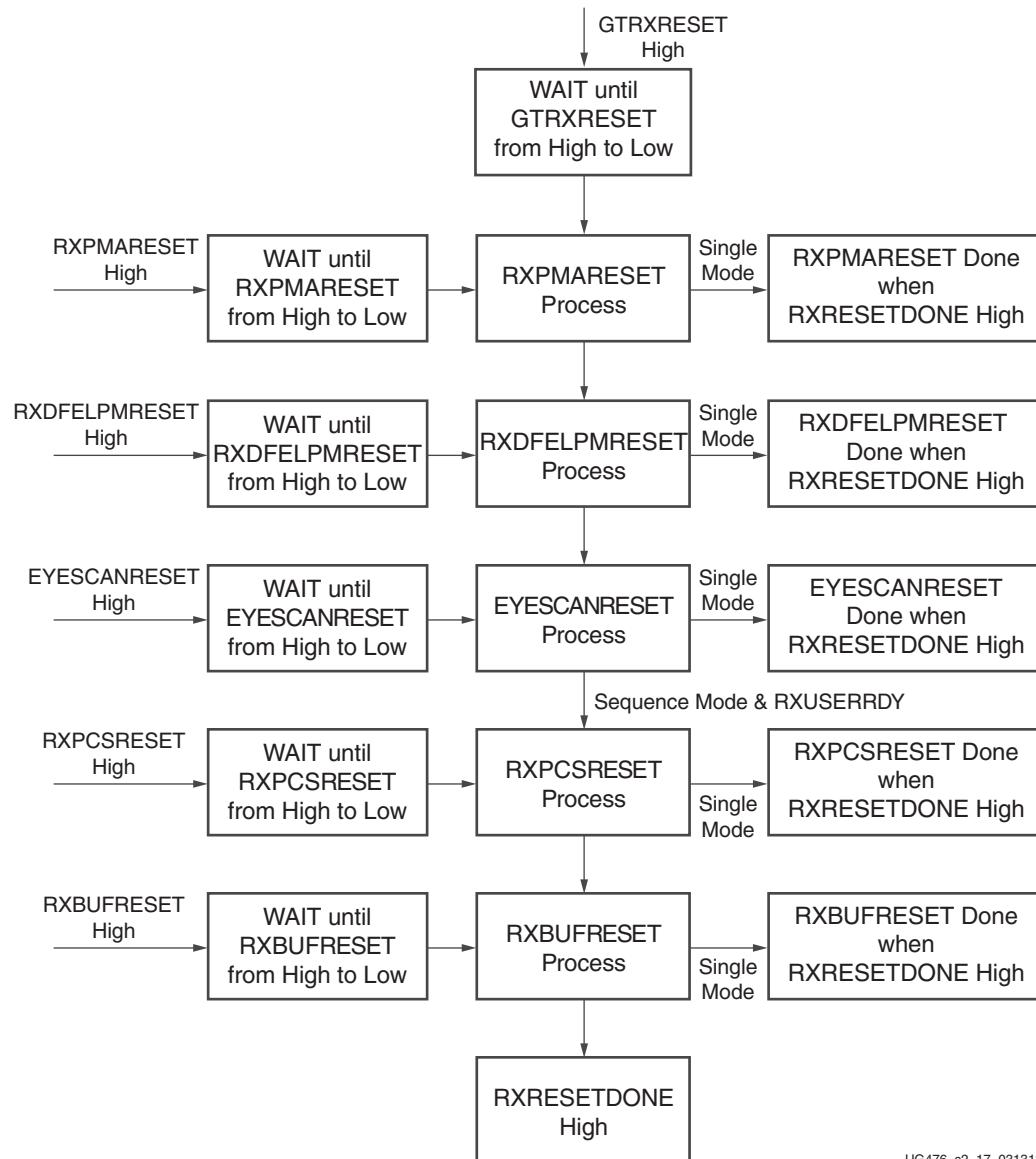

Figure 2-20: GTX/GTH Transceiver RX Reset State Machine Sequence
The GTX/GTH transceiver RX uses a reset state machine to control the reset process. Due to its complexity, the GTX/GTH transceiver RX is partitioned into more reset regions than the GTX/GTH transceiver TX. The partition allows RX initialization and reset to be operated in either sequential mode or single mode as shown in Figure 2-20:
To initialize the GTX/GTH transceiver RX, GTRXRESET must be used in sequential mode. Activating the GTRXRESET input can automatically trigger a full asynchronous RX reset. The reset state machine executes the reset sequence as shown in Figure 2-20, covering the entire RX PMA and RX PCS. During normal operation, sequential mode also allows the user to initiate a reset by activating any of these resets including RXPMARESET, RXDFELPMRESET, EYESCANRESET, RXPCSRESET, and RXBUFRESET, and continue the reset state machine until RXRESETDONE transitions from Low to High.
The RX reset sequence shown in Figure 2-20 is not automatically started to follow the global GSR. For the following transceivers and configurations:
2. All reset inputs shown on the left of Figure 2-20 including RXPMARESET, RXCDRRESET, RXCDRFREQRESET, RXDFELPMRESET, EYESCANRESET, RXPCSRESET, and RXBUFRRESET must be constantly driven Low during the entire reset process before RXRESETDONE is detected High.